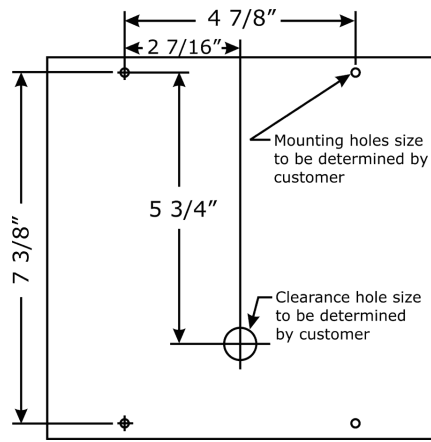

FIGURE 1: Holes Location
1. Position the first reader (item b in the Parts List) at the desired location. Observe ADA height requirements. Drill 4 holes for the screws or anchors, and drill 1 clearance hole for the cable (see Figure 1). The installer determines the size of mounting holes and cable clearance hole.